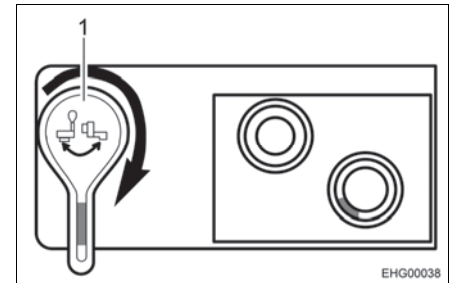

Fig. 64 Drain cock, open
- Open the drain cock. In order to do this, turn the lever of the drain cock through 90° in a clockwise direction (see Fig. 64,1).